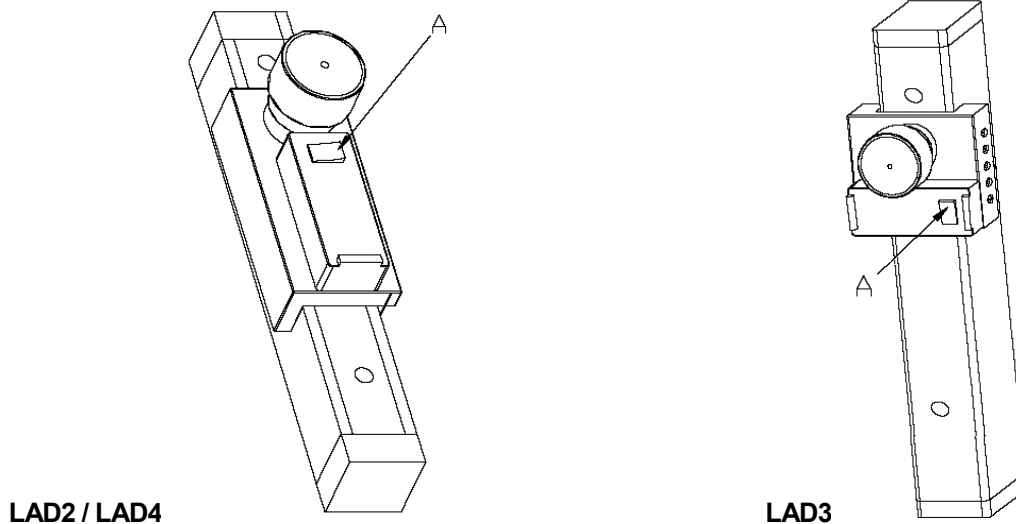

Figure 3
1. Fix the laser alignment device to the emitter (next to the photo-emitter, which is visible against the light near the beam present indicator LED) (Figure 3).
4. Switch on the laser (switch A - Figure 3) and the safety light curtain.